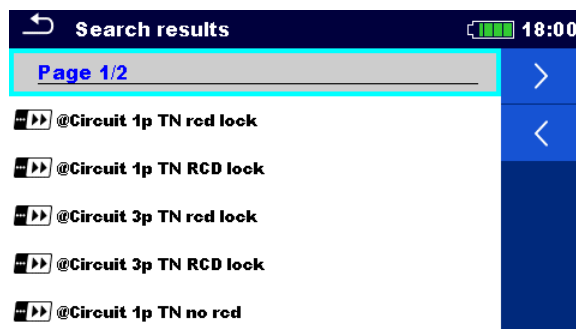
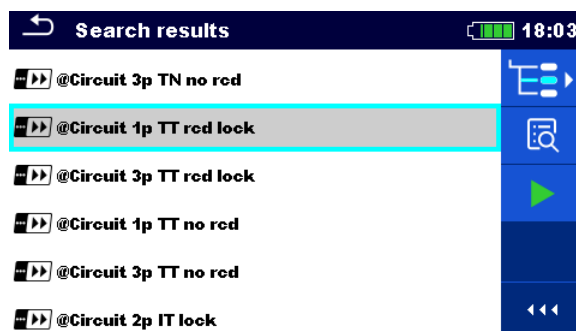

Figure 8.2: Search results screen – Page view
Figure 8.3: Search results screen with Auto Sequences® selected
- ①  Search function is available from the Auto Sequences® header line.
- ②  Select Search in control panel to open Search setup menu.
- ③  The parameters that can be searched for are displayed in the Search setup menu.
- ③a  The search can be narrowed by entering a text in the Name and Short code fields. Strings can be entered by using the on-screen keyboard.
- ③b  Clears all filters.
- ④  Searches through the Auto Sequences® menu according to the set filters. The results are shown in the Search results screen presented on **Figure 8.2** and **Figure 8.3**.